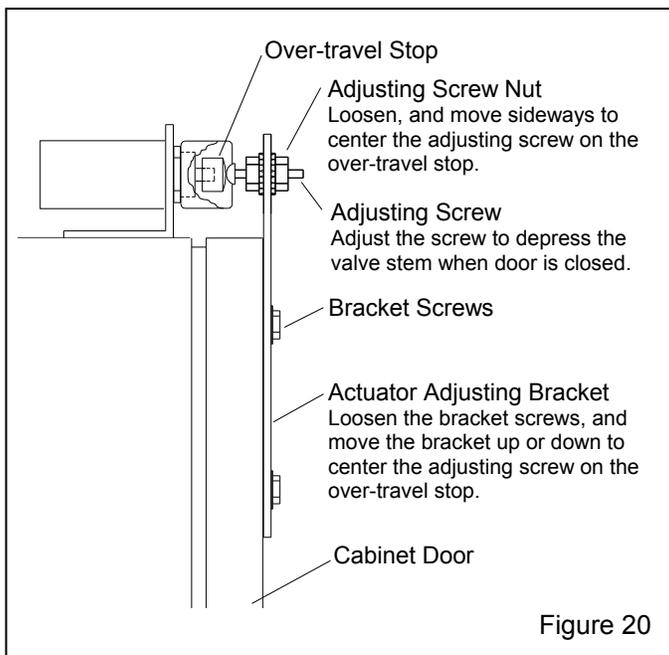

Figure 20
5.7 Door Interlocks, Figure 20